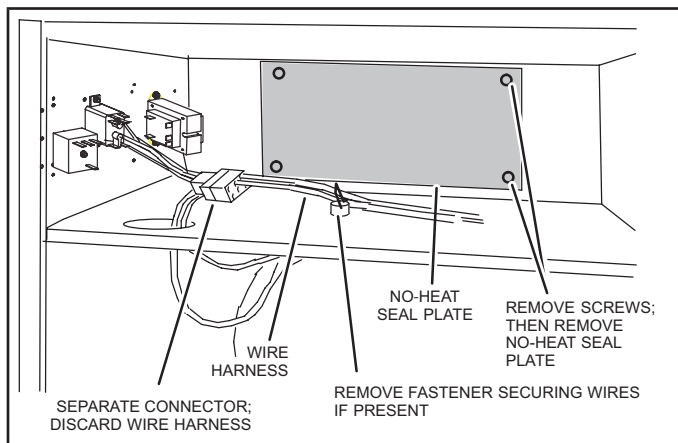

FIGURE 4. Prepare to Install Heat Element
- 3 - Disconnect any existing field supply wires and pull them out of the air handler. Disconnect and remove wiring harness and fastener (see figure 4). If not removed, these items will prevent the heat section's base from resting properly in the compartment.
- 4 - Remove the no-heat seal plate in the air handler frame (see figure 4).